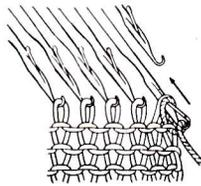

Fig. 62
- c. Place yarn in front of latch and manually push needle back to form a single stitch. (See Fig. 62)